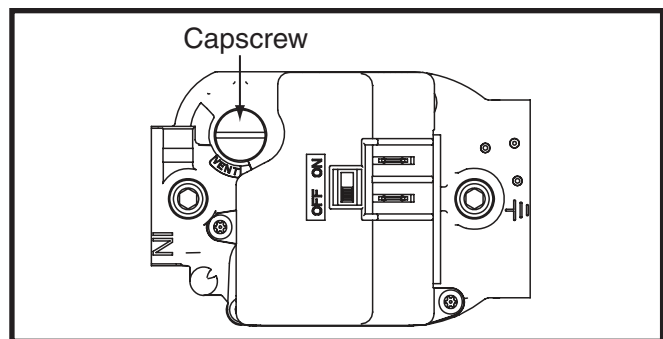

Figure 19. Regulator Capscrew
7. Remove the regulator capscrew from the INLET side of the regulator. See (Figure 19, \(page 20\)).